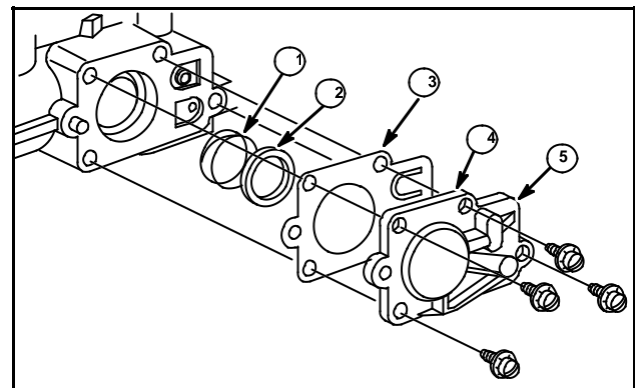

Fig. 71
1. Remove fuel pump cover (5), diaphragm (3), spring (1) and cup (2), Fig. 71.